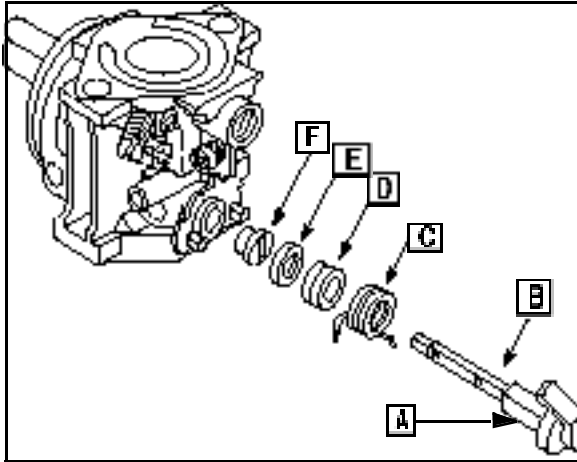

Fig. 60
6. Install upper retainer (A) to the choke shaft (B) Fig. 60).
7. Install spring (C), washer (D), seal (E) and lower retainer (F) to choke shaft (B). Insert shaft into carburetor body (G) Fig. 60).